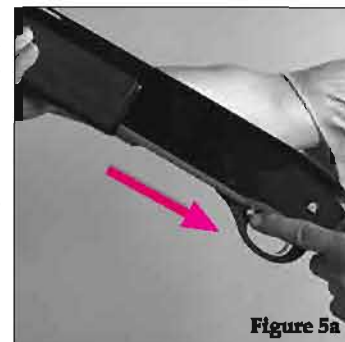

Figure 5a
2) If a cartridge remains in the magazine tube, press the "cut-off" button on the left side of the trigger guard to place the cartridge on to the carrier. Pull the bolt lever to place that cartridge into the chamber. Then pull it again to eject the cartridge from the chamber. Continue until all cartridges have been ejected (see figure 5a and 5b)